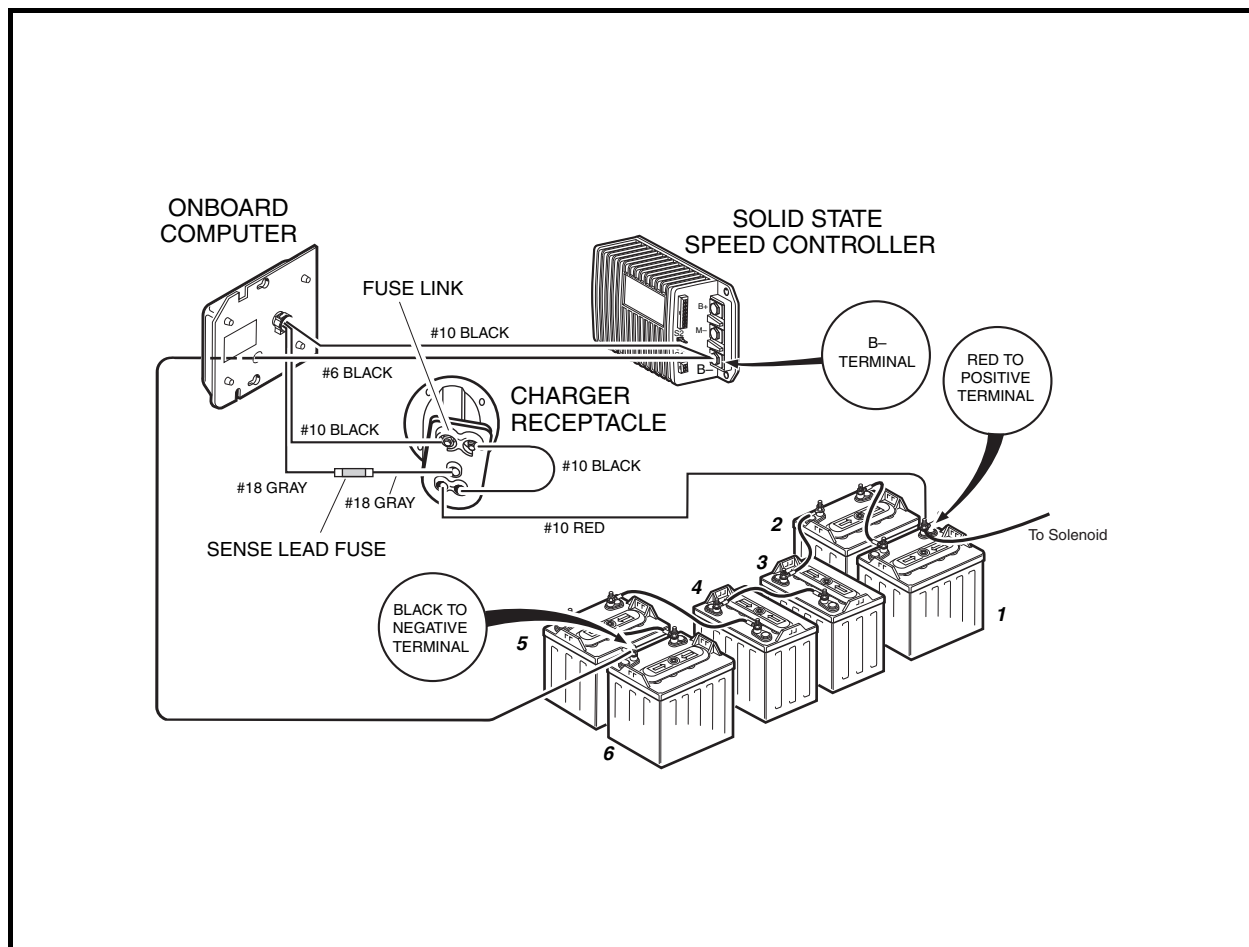
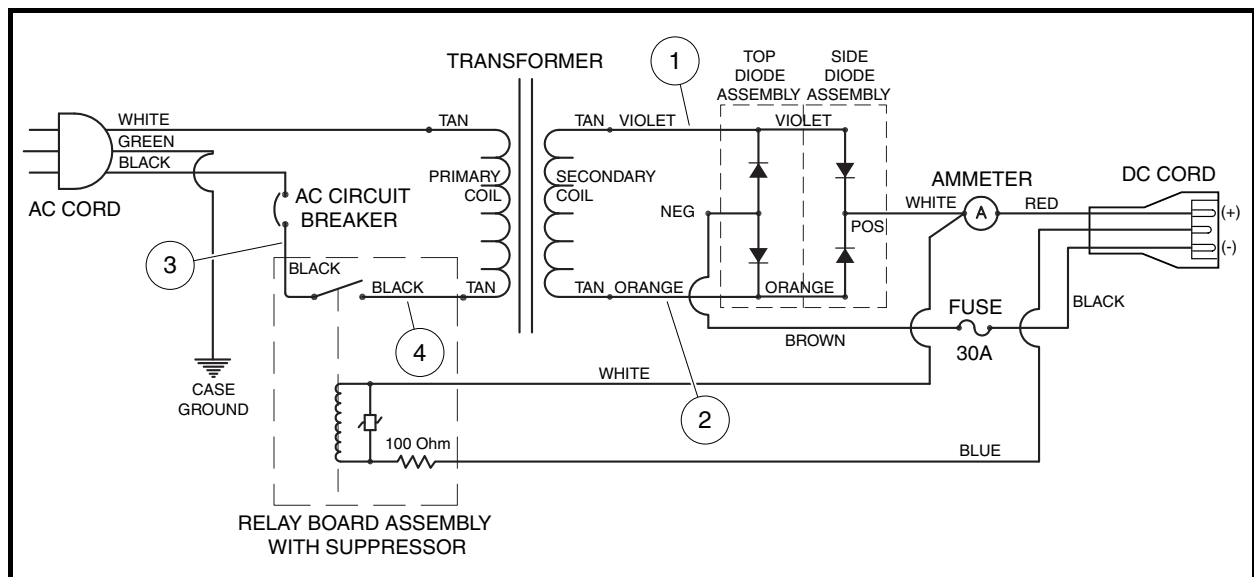
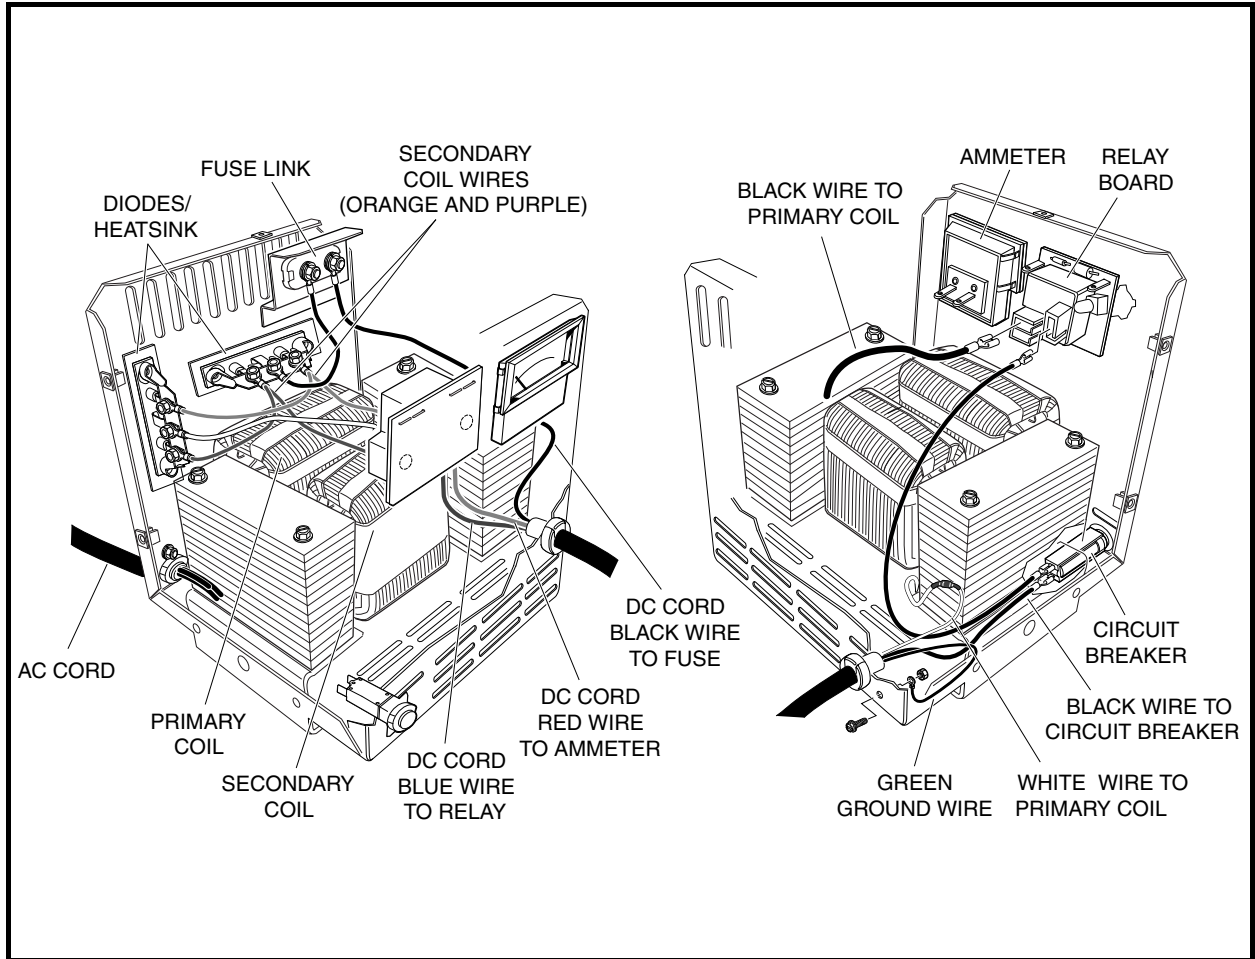

Figure 7-3 Charge Circuit and Battery Configuration – 6 x 8-Volt Turf 1 and Carryall 1 Vehicles
Figure 7-9 PowerDrive 3 Battery Charger Wiring Diagram (External Charger)
Figure 7-10 PowerDrive 3 Battery Charger Components – Model 26580
The negative terminal of the receptacle is connected to the onboard computer (**Figure 7-3, Page 7-4**). The 10-gauge black wire from the onboard computer connects to the B- terminal on the speed controller, and the 6-gauge black wire (also on the controller B- terminal) goes through the onboard computer and connects to the negative (-) post of battery no. 6. The positive terminal of the charger receptacle is connected to the positive (+) post of battery no. 1. The gray wire (sense lead) from the charger receptacle is connected to the sense lead fuse, which is connected to the gray wire from the onboard computer.
3. If the charger does not operate exactly as described above, refer to the wiring diagram and make sure that the vehicle is wired correctly (**Figure 7-3, Page 7-4**) and that the internal charger wiring is correct (**Figure 7-9, Page 7-11**).
- Knowledge of battery charger wiring and component terminology is required before attempting any repair (Figure 7-9, Page 7-11 and Figure 7-10, Page 7-15).